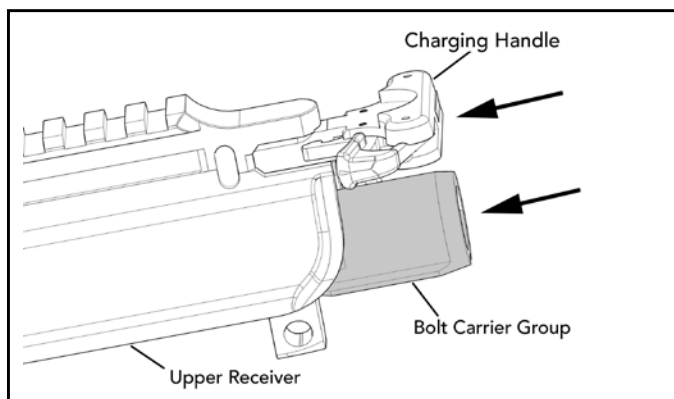

Fig. 64 – Completing installation of the bolt assembly into the upper receiver
- h. Push the charging handle and bolt group completely into the upper receiver until the locking lugs on the bolt head engage the locking on the barrel extension and the latch on the charging handle engages the oval locking surfaces on either the left or right hand sides of the upper receiver (Fig. 64).